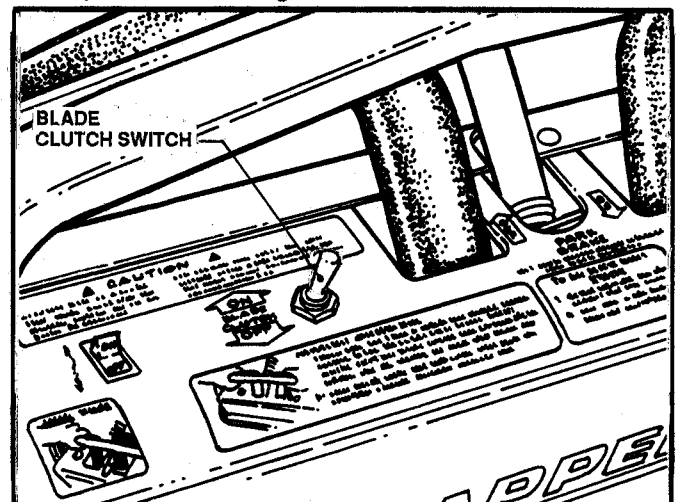

FIGURE 8
4. Place BLADE CLUTCH SWITCH in "OFF" position. See Figure 8.